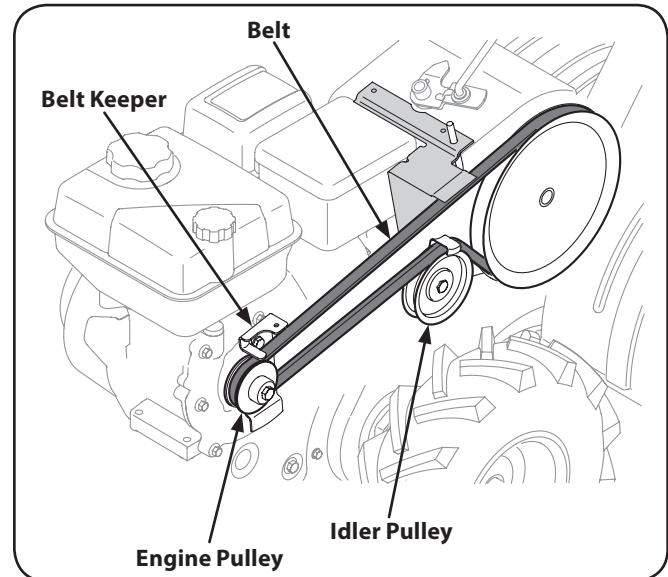

Figure 7-2
3. Remove the nut and washer from the front side of the belt cover. Remove the hex head screw at the back of the cover. See Figure 7-2.
4. Remove the belt keeper assembly located behind the engine pulley by removing the two hex bolts and lock washers. See Figure 7-2.
5. Remove the idler pulley by removing the bolt and nut. See Figure 7-2.
6. Remove the old belt and install the new belt. Follow the instructions in reverse order to re-install the belt keeper and belt cover. See Figure 7-2.